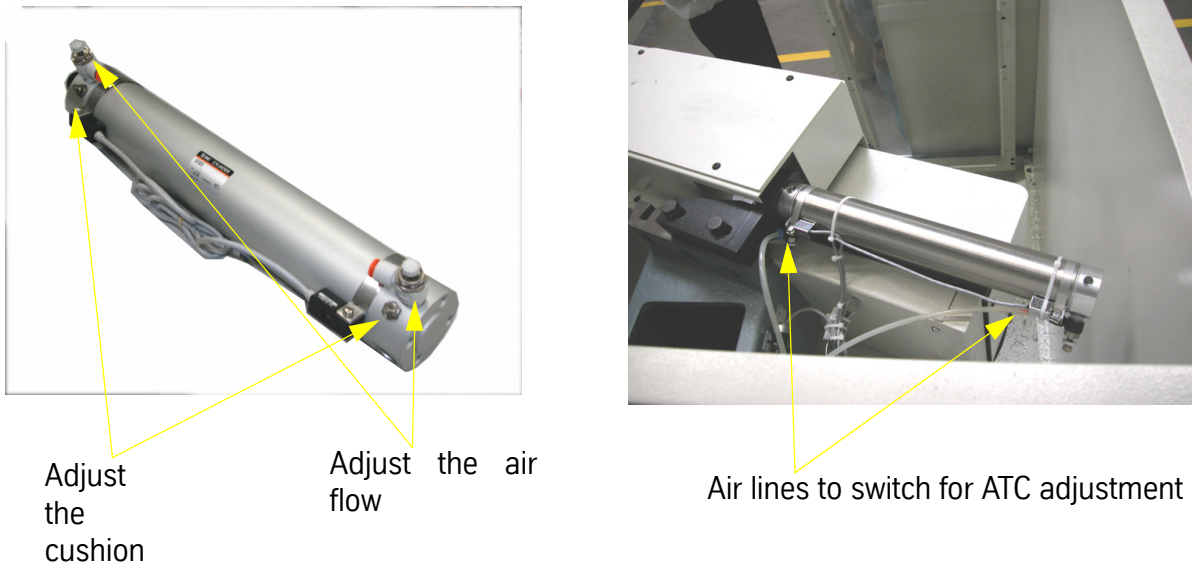

Figure 5-5 EMC ATC Cylinder
- Switch the air lines connected to the air cylinder (see figure 5-5)
Note: continue with step (8) through (12) only if your machine is an EMC model VMC. (see Figure 5-5)